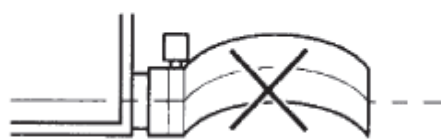

Figure 1-2-11
- No folding of drain hose inside the indoor unit. (Refer to Figure 1-2-11)